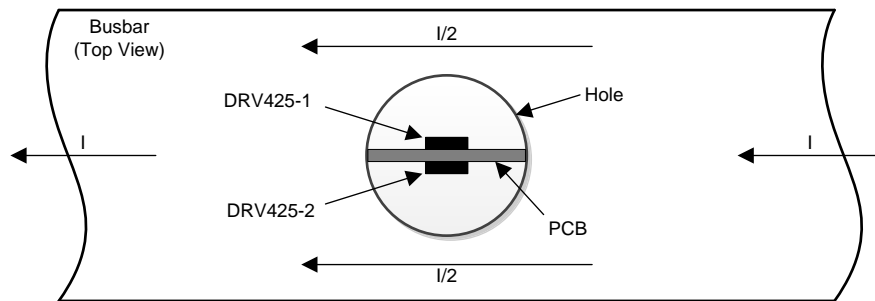
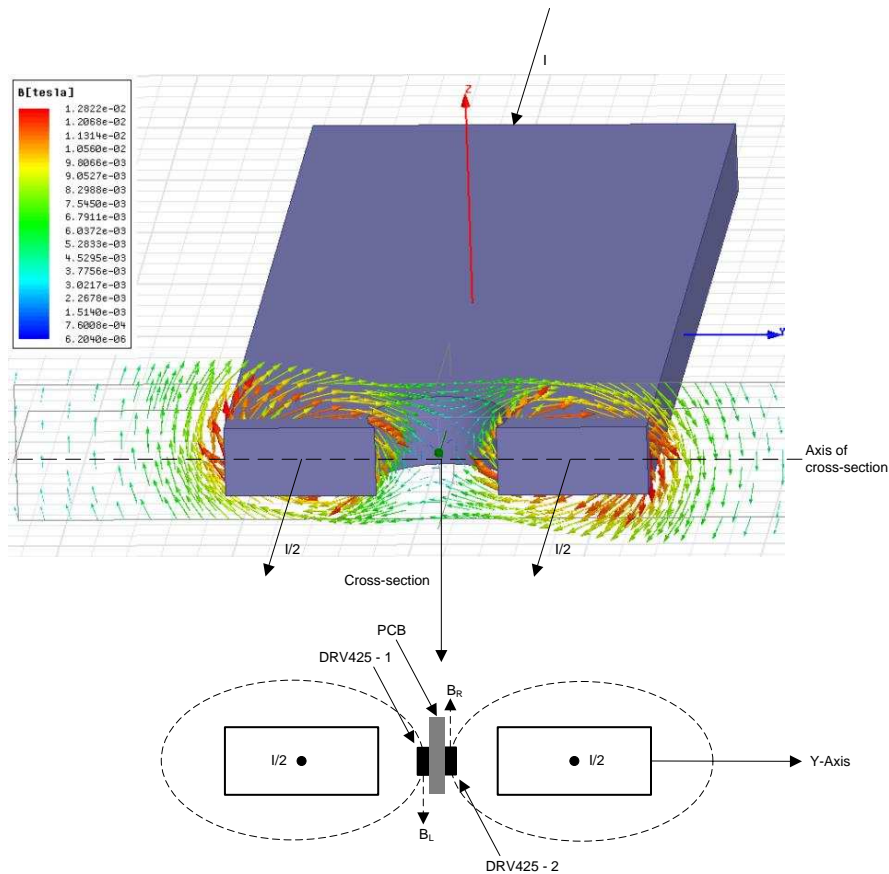

图 71. DRV425-Based Busbar Current Sensing
图 72. Magnetic Field Distribution Inside a Busbar Hole
Figure 71 shows an alternative approach with two DRV425 devices. If a hole is drilled in the middle of the busbar, the current is split in two equal parts that generate magnetic field gradients with opposite directions inside the hole. These magnetic fields are termed  $B_R$  and  $B_L$  in Figure 72. The opposite fields cancel each other out in the middle of the hole. The high sensitivity and linearity of two DRV425 devices positioned at the same distance from the middle of the hole allow the small opposite fields to be sensed and the current measured with high-accuracy levels. The differential measurement rejects outside fields that generate a common-mode error that is subtracted at the output.
2. Apply current through the busbar and move the PCB along the y-axis in the busbar hole, as shown in 图 72. The PCB is in the center of the hole if  $V_{CM} = V_{OFFSET}$ .